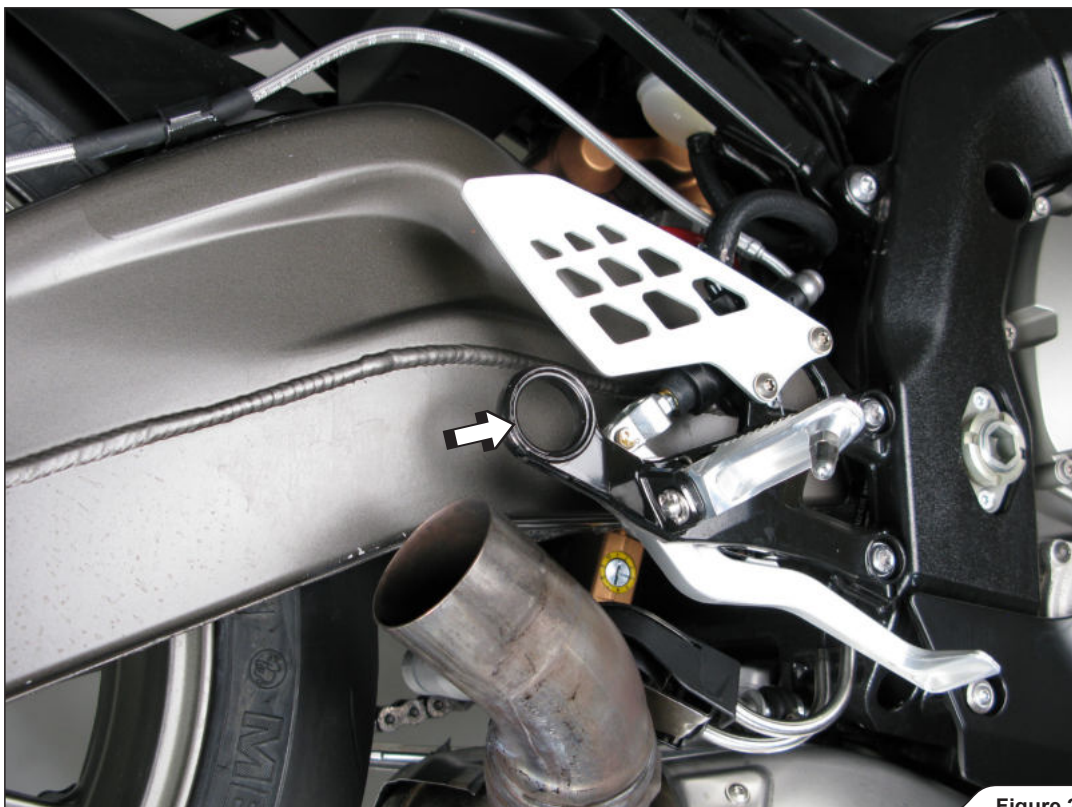

Figure 2
3. Remove the metal collar and rubber damper from the stock muffler hanging bracket (Figure 2).